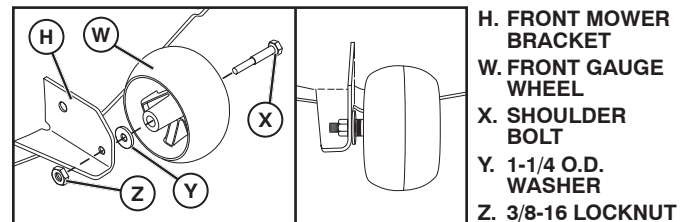

Fig. 3
TO INSTALL MOWER AND DRIVE BELT (See Figs. 3 - 15)
1. SET PARKING BRAKE LEVER AND LOWER ATTACHMENT LIFT (See Fig. 3)